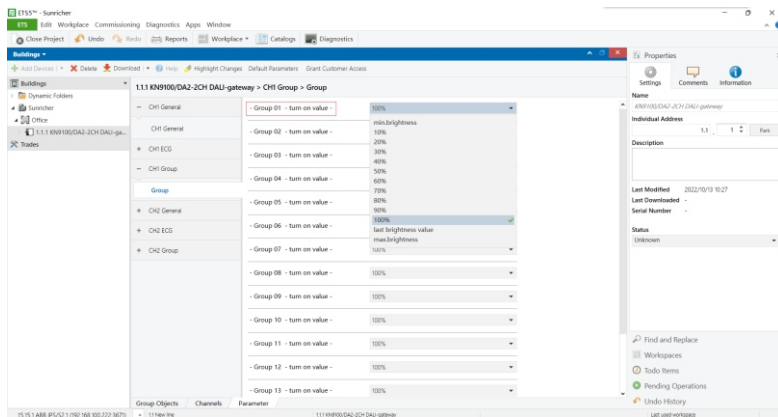

Figure 37
**Turn on value:** means brightness value when the group is turned on, drop down and tick a value, available settings are “10%-100%”, “min. brightness”, “max. brightness”, and “last brightness value” as shown in Figure 37.